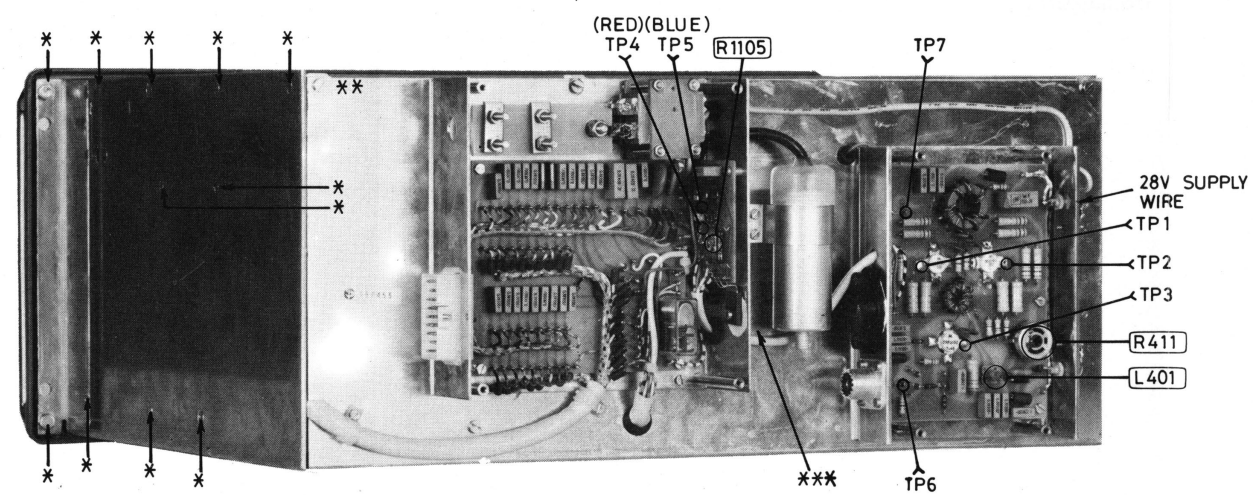

FIG. 3
5.8.8. Adjust L401 (see fig. 3) to max. METER deflection and keep the METER deflection at 30 by means of the drive level potentiometer.